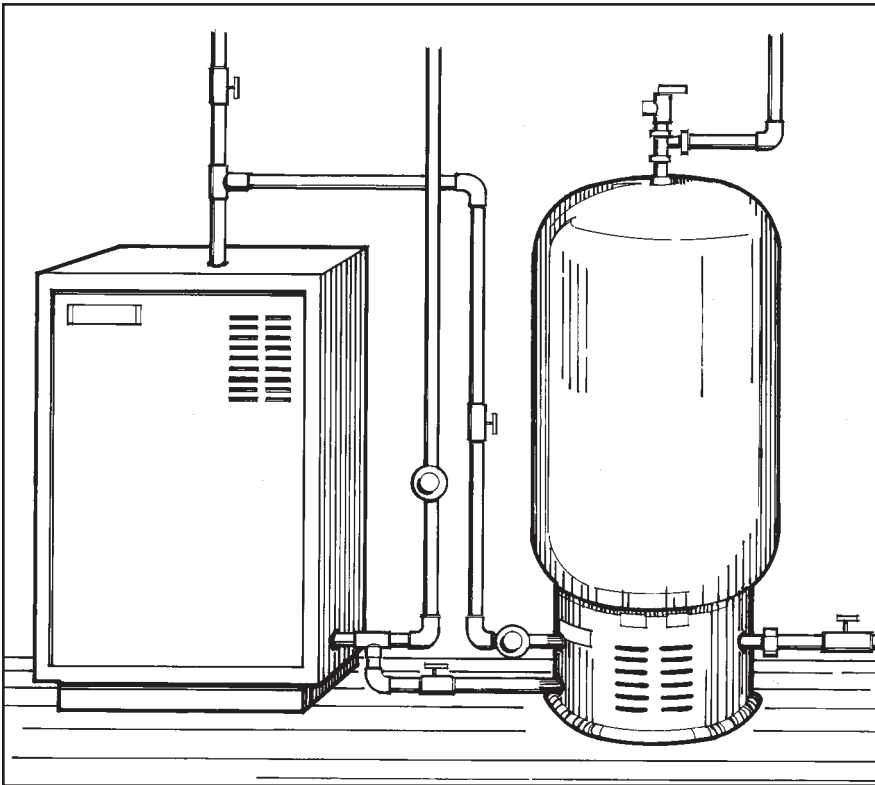

Figure 3
**Space heat-water heater combinations.** Almost all high efficiency boilers will heat water. This may be done with an indirect fired water heater, also known as a “sidearm” water heater (Figure 3). This is a separate zone of heat flow from the boiler to an insulated tank. The hot water flows through a water-to-water heat exchanger which in turn heats the water in the tank. Some boilers may also have a coil inserted into the boiler itself, but this is not as good an idea: it’s less efficient than the sidearm. When considering such a unit, make sure that the boiler is not too large for your home heating needs, and that the water heater is reasonably priced.